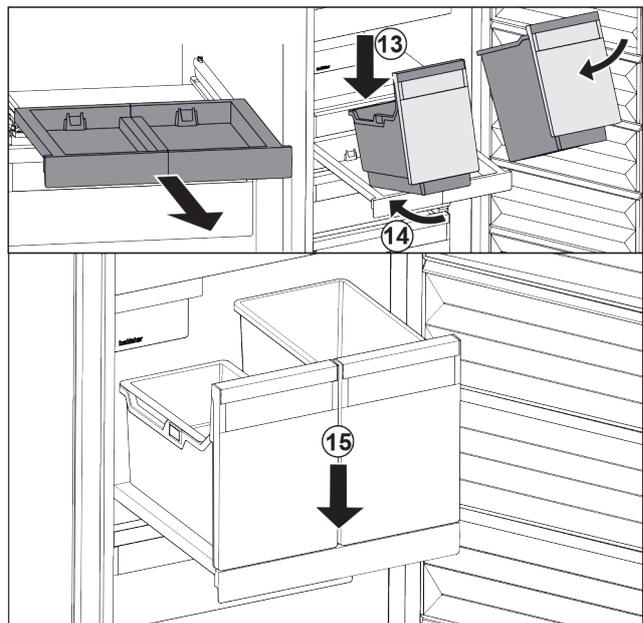

Fig. 90
- ▶ Place the container at an angle on the pull-out board. Fig. 90 (13)
- ▶ Slide the container to the back at an angle. Fig. 90 (14)
- ▶ Place container in the front. Fig. 90 (15)